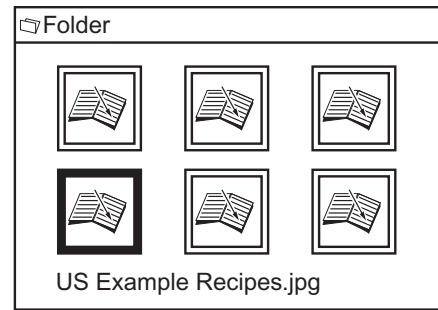

Fig. 12
4. Highlight the file (Fig. 12).